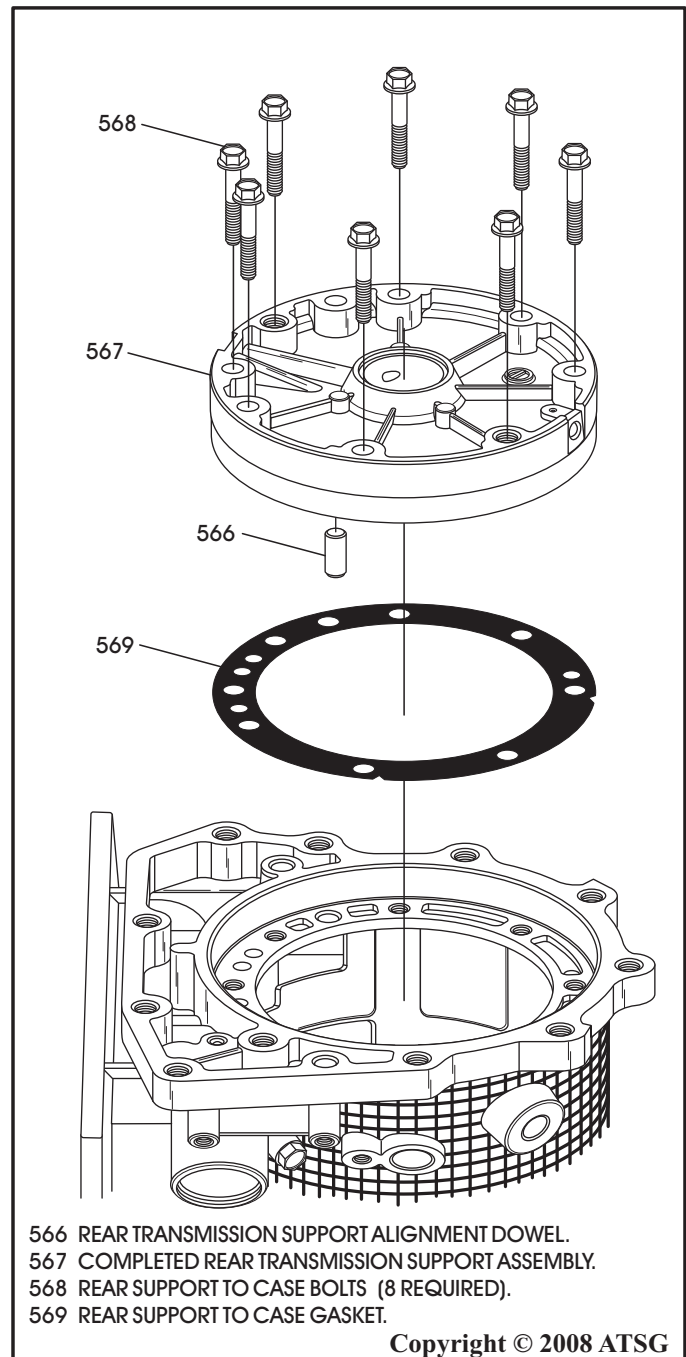

Figure 57
13. Remove the retaining bolts and remove output shaft support from case, as shown in Figure 57.
14. Remove and discard output shaft support to case gasket, as shown in Figure 57.